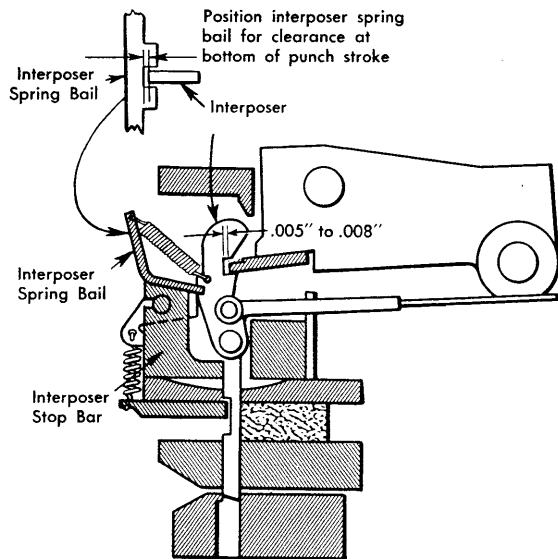

Figure 44. Interposer Spring Bail
#### INTERPOSER SPRING BAIL (FIGURE 44)
4. Interposer alignment: Adjust all armatures so they move freely and line up the interposers evenly in their normal position. Check for .005" to .008" interposer to punch bail tongue clearance with interposer engaged with the bail tongue when it is at its lower limit of travel (See Figure 44).